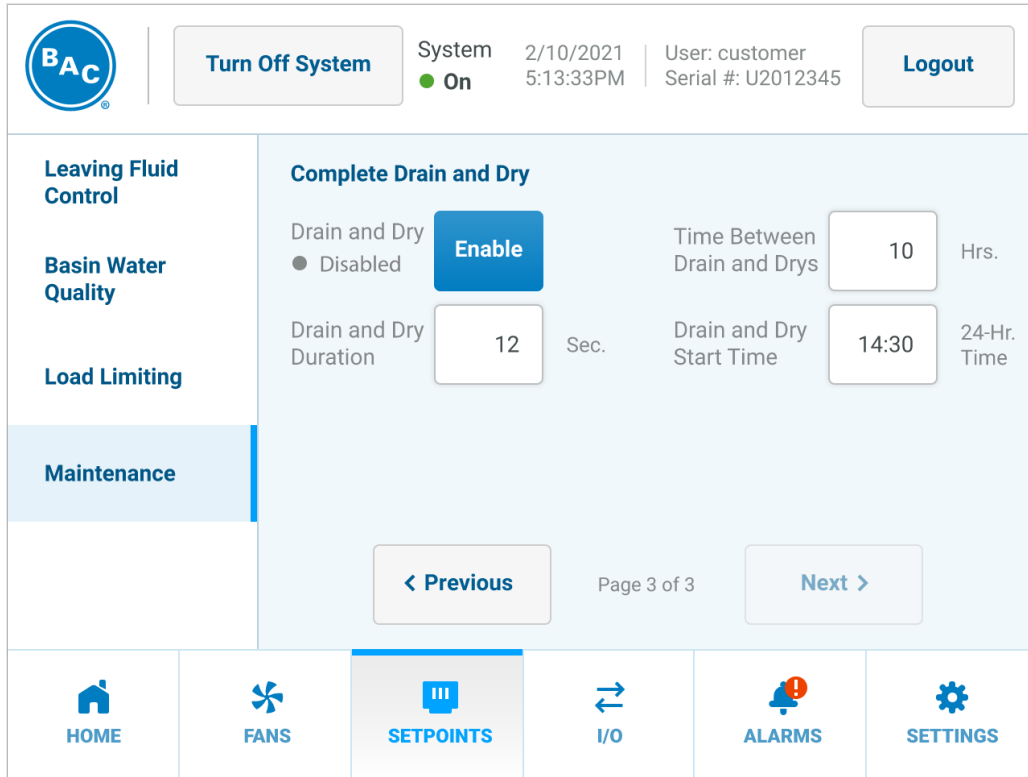

Figure 140. Setpoints Menu, Maintenance Page 3 of 3
- Complete Drain and Dry maintenance mode shown in **Figure 140** with parameters listed in **Table 94**.